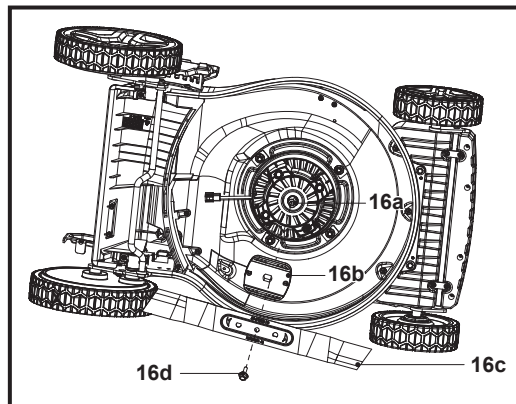

Fig. 19
1. Keep the underbody and cutting blade (16c) clean and free of debris. Remove clippings from the rear discharge chute (21).
5. Replace the cutting blade (16c) with a new one of the same type. Check the status of blade holder (16b) onto the spindle (16a) firstly, then attach the cutting blade (16c) to the blade holder (16b) by aligning it with the correct semi-circle patterns, fit the hex bolt with washers (16d) properly to secure the connection. Tighten the hex bolt (16d) clockwise with 25 Nm min, 35 Nm max. to ensure safe operation of your product (Fig. 19).